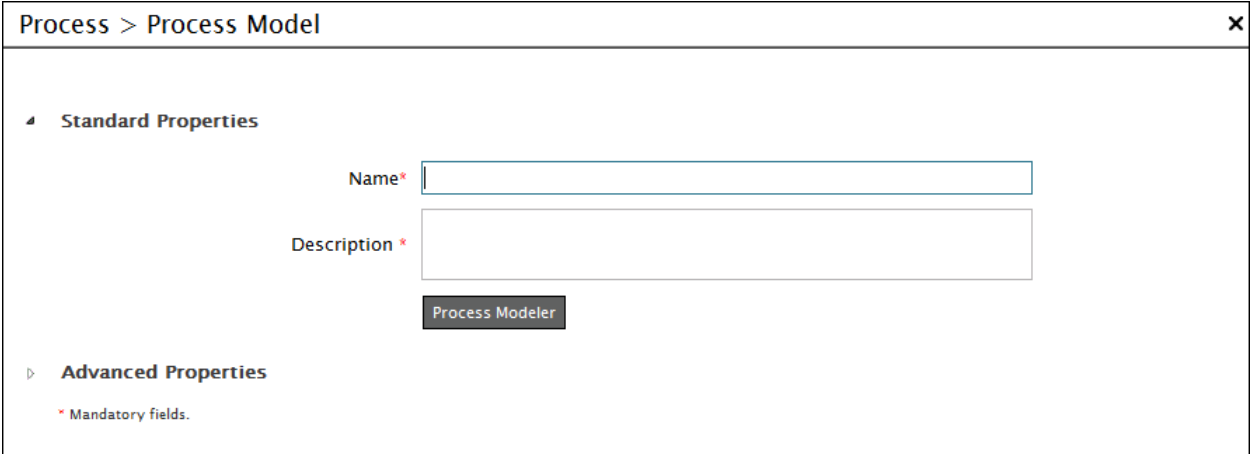

Figure 2: Create Process Model
- 3. Click the **Create New** link. This displays the *Create Process Model* screen (see Figure 2).